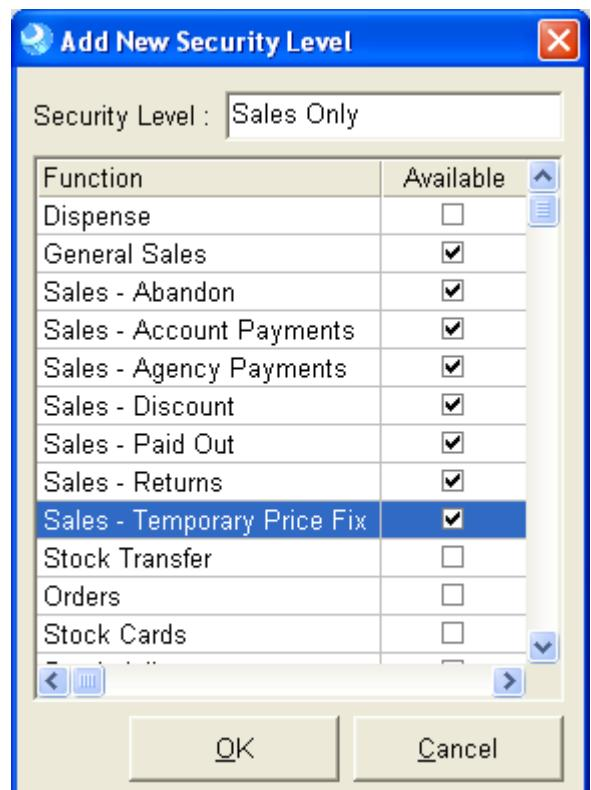

Figure 234
4. This will display 'Add New Security Level' window (see Figure 234).